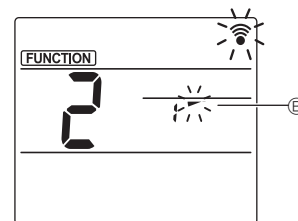

Fig. 3
③ Setting the vane angle (Fig. 3)